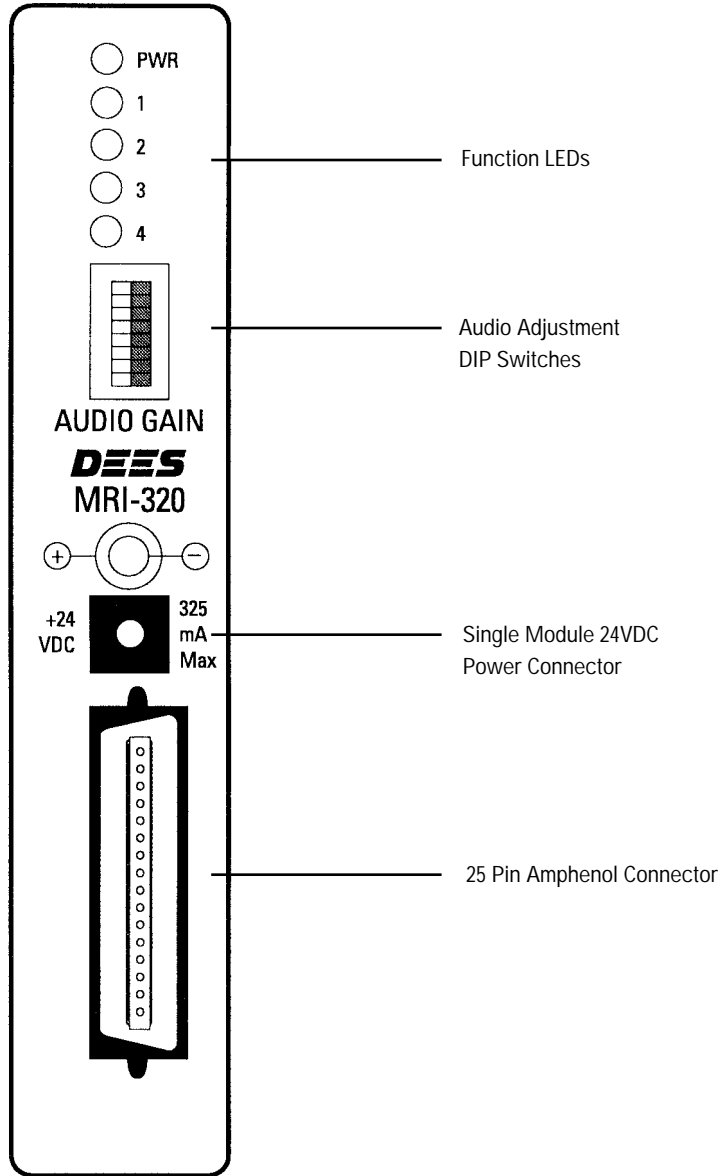

Fig. 8
9. Install power to MRI-320 from the 25 pair cable if multiple installation, or directly into the power jack on the face of the unit if single MRI-320 installation. See Figs. 8 and 11.